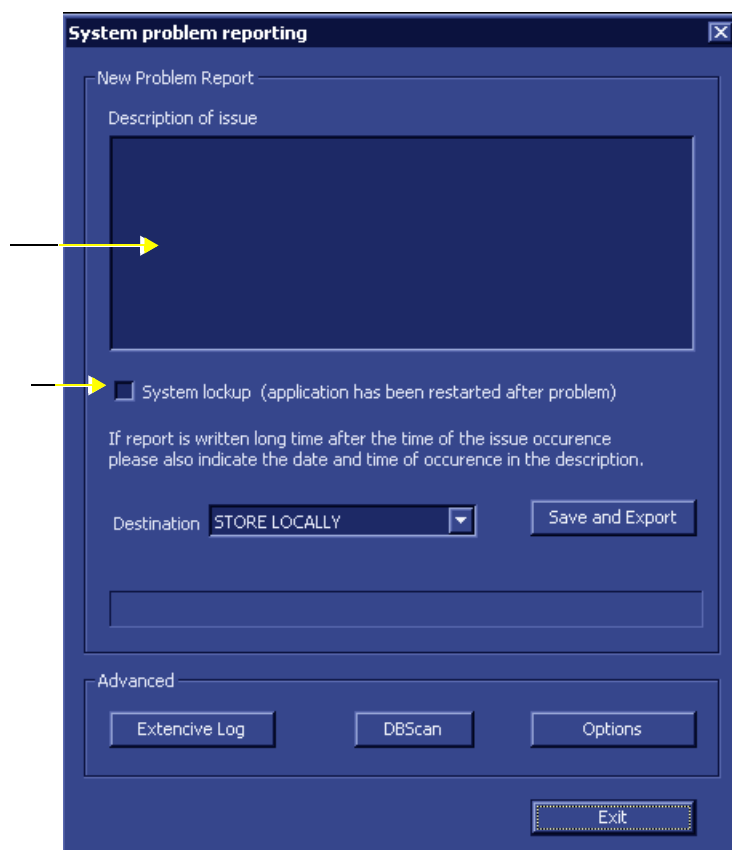

Figure 7-145 System Problem Reporting Dialog
The System Problem Reporting dialog opens - see Figure 7-145 on page 7-171.
- 2.) Click the **Extensive Log** button (refer to Figure 7-145 on page 7-171).
- 1.) From the System Problem Reporting dialog (Figure 7-145 on page 7-171), click the **Options** button.